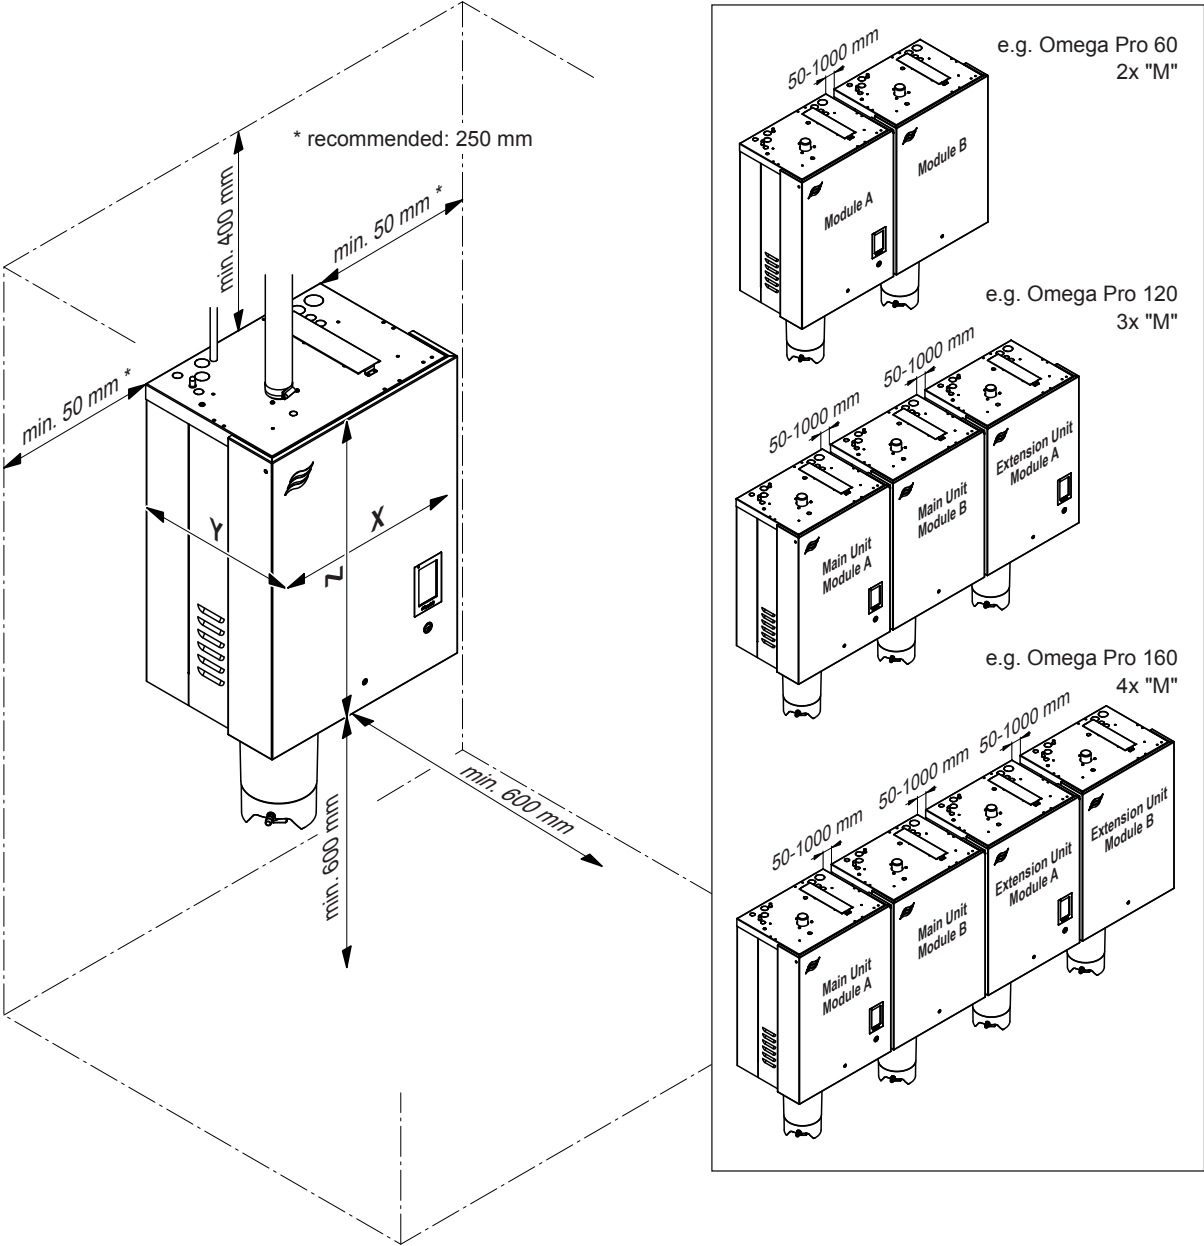

Fig. 9: Distances to be observed
- Install the Condair Omega Pro in such a manner that it is **freely accessible** with sufficient space available for maintenance purposes. The **minimum distances** shown in Fig. 9 **must be maintained**.
- In order to use the cables supplied with double units and device interconnected systems, the individual units must be mounted side by side on the same height, with a maximum distance between the units of min. 50 mm to max. 1000 mm and in the order shown in Fig. 9.